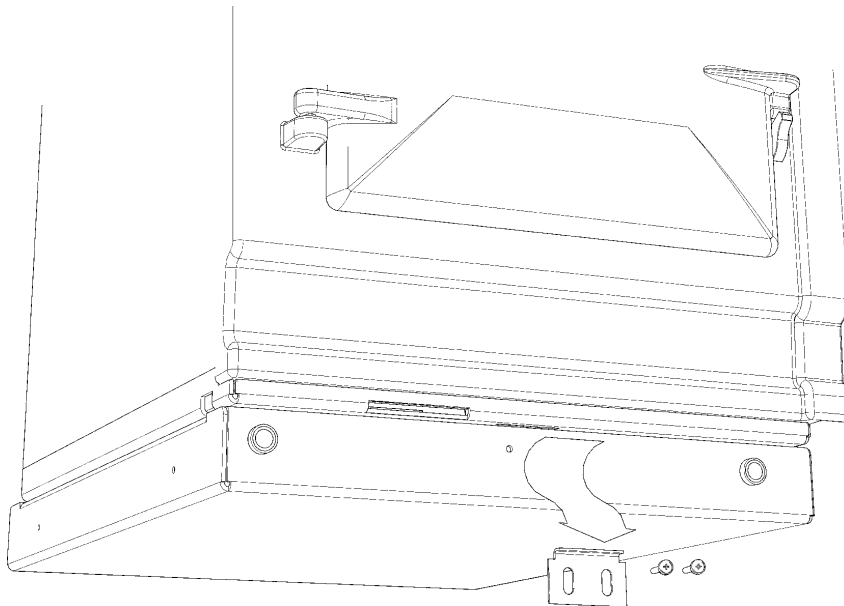

Fig. 14
1. Detach hotcupboard from plinth by removing two screws and tongue bracket from plinth (See Fig. 14), slide hotcupboard forwards and away from rear fixing bracket (See Fig. 15).